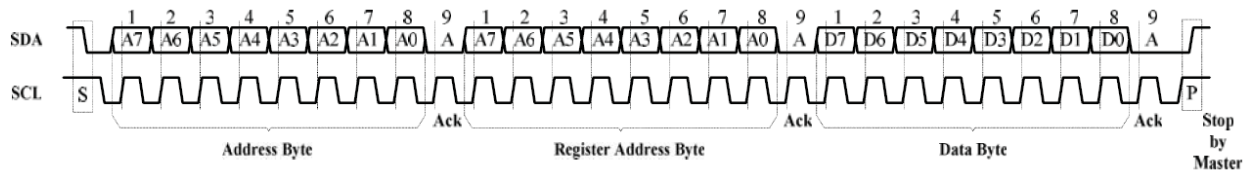

Figure 4 Writing to BCT3024(Typical)
- 1) In a typical Writing way (see Figure 4), the address and data of OUT4 are neglect.